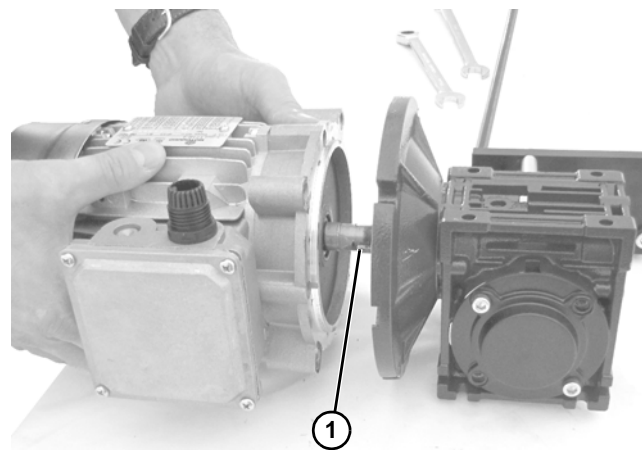

**Figure 24**
4. Remove four screws (**Figure 24, item 1**). Detach motor (**Figure 24, item 2**) from gear reducer (**Figure 24, item 3**). Retain motor output shaft key.
5. Apply anti-seize to motor shaft before assembling to gearbox. With key (**Figure 25, item 1**) in keyway, slide new motor and gear reducer together. Install screws (**Figure 24, item 1**) and tighten.